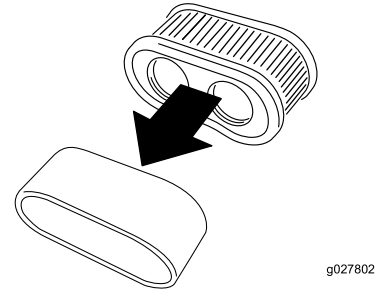

Figure 29
5. Remove the foam element from the paper element (Figure 29).